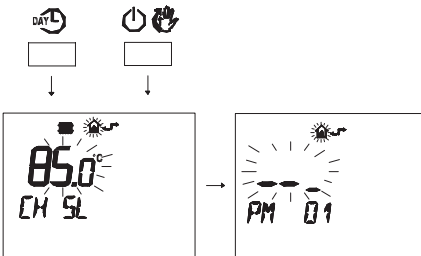

Fig. 7.41
- Press buttons **DAY** and **HOUSE** at the same time to enter transparent programming (Fig. 7.41).